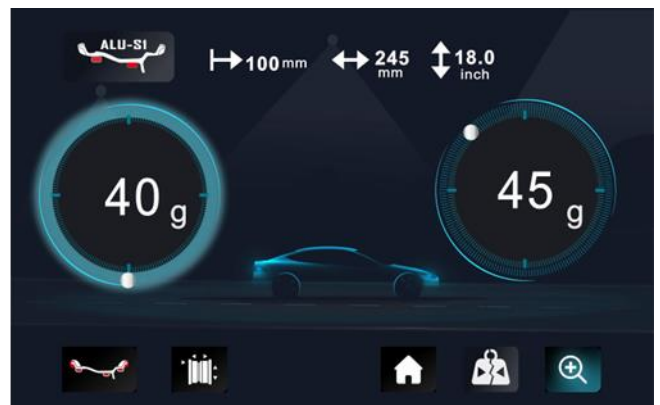

Fig. 11
4.3.4. Press  until the left LED fully lights up. Add weight on 6 o'clock position (Fig. 11).